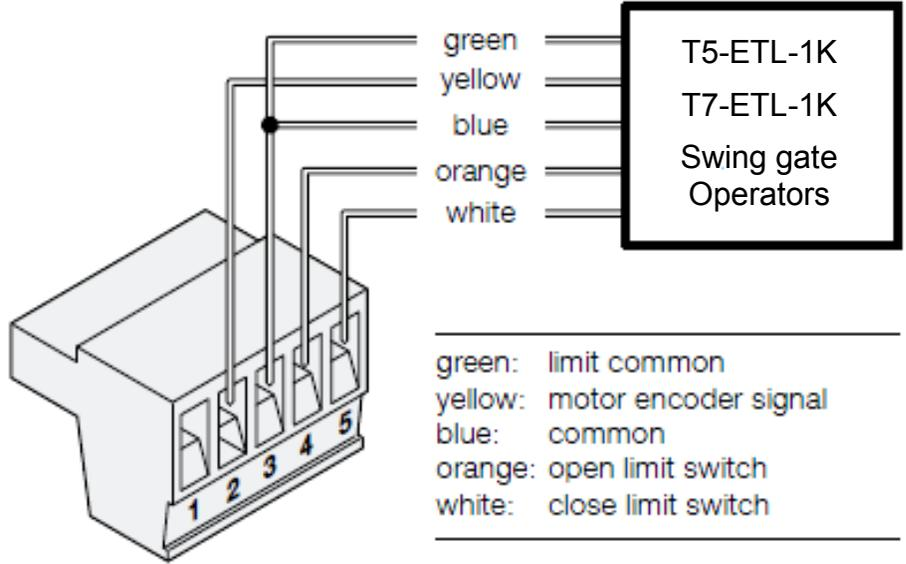
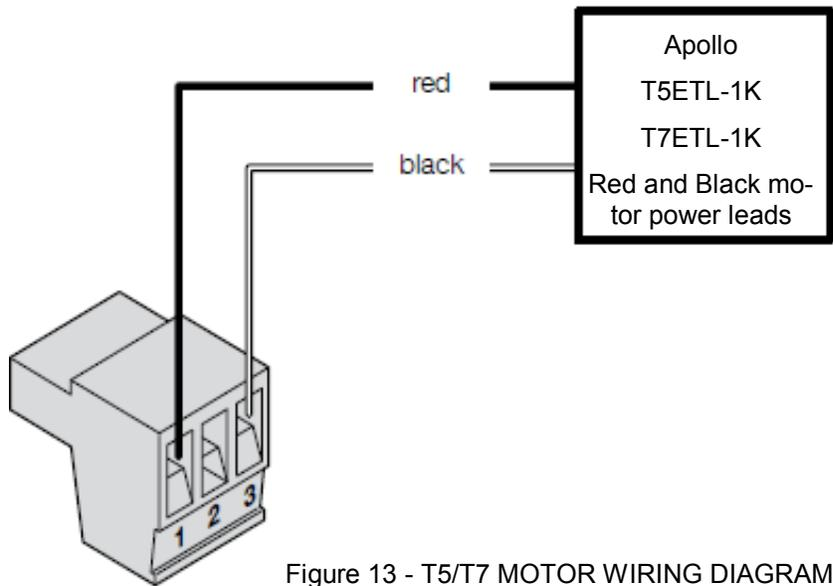
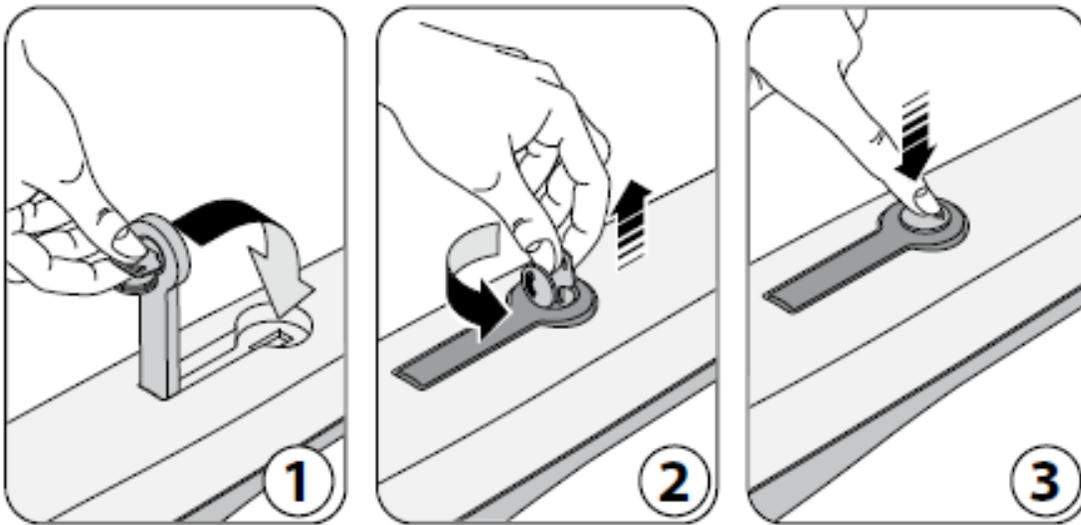

Figure 12 - T5/T7 WIRING DIAGRAM
Figure 13 - T5/T7 MOTOR WIRING DIAGRAM
Figure 17 - T5/T7 MANUAL ENGAGE
Terminate the other end of the T5/T7 motor control cable shown in Figure 12 T5/T7 WIRING DIAGRAM and Figure 13 T5/T7 MOTOR WIRING DIAGRAM.
See Figure 12 for a wiring diagram of T5/T7 swing gate operator to the 5-pin Motor 1 & Motor 2 connector
Connect the Apollo T5/T7 actuator motor leads to the 3-pin connector as shown in Figure 13.
4. Manually move the gate mid-way and engage mechanical release and stow handle (see Figure 17 T5/T7 MANUAL ENGAGE). Test motor direction by pressing OPEN. If the gate instead CLOSES swap the RED and BLACK motor leads shown in Figure 13 T5/T7 MOTOR WIRING DIAGRAM. Using the OPEN button on the front of the Control board, hold the button down until the gate reaches the fully intended open position.